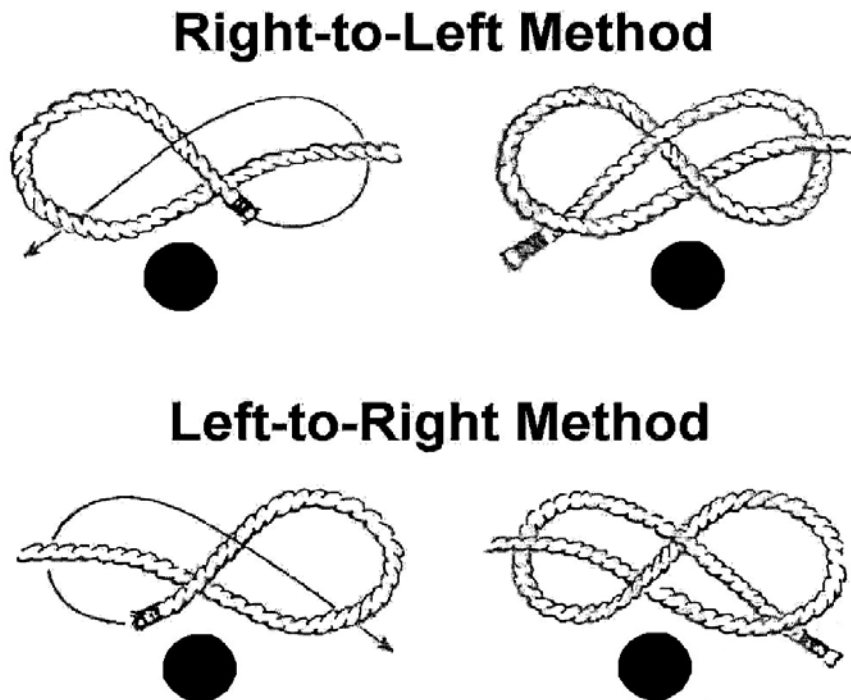

Figure 3-99
2. Tie a figure eight knot (see Figure 3-99).